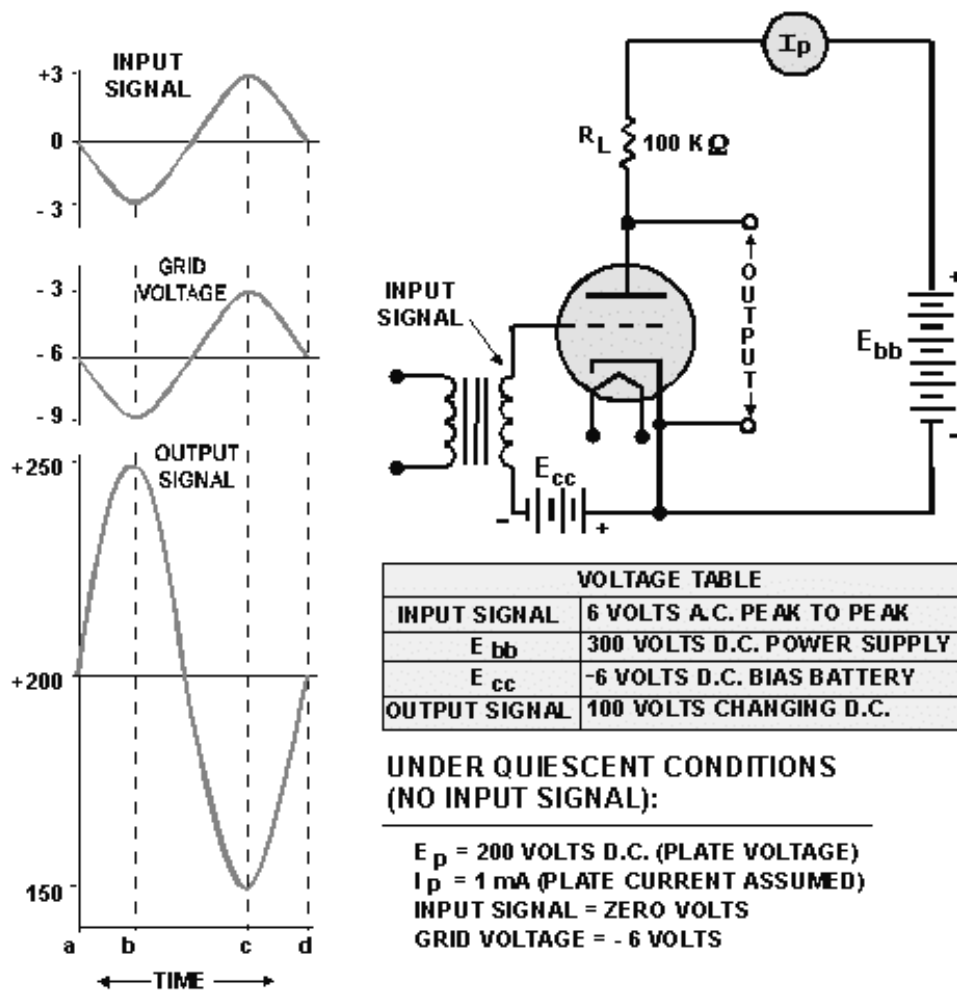

Figure 1-19.—Triode operation.
The circuit in figure 1-19 brings together all of the essential components of a triode amplifier. Before analyzing the circuit, however, we need to define the term **QUIESCENT**.
Simply, quiescent describes circuit conditions when the tube is not amplifying. The tube has no output signal and is in a kind of standby, waiting condition. Now let's go on to figure 1-19. With no input signal, under quiescent conditions, assume that 1 milliampere of current flows through the tube, cathode to plate. This current ( $I_p$ ) will flow through  $R_L$  (load resistor) to the positive terminal of the battery. The current flowing through  $R_L$  causes a voltage drop ( $IR$ ) across  $R_L$  equal to:
These values are shown on the waveforms as time a in figure 1-19.
Before going on to the next section, there is one more thing of which you should be aware. Look again at the waveforms of figure 1-19. Notice that the output voltage of the amplifier is 180° out of phase with the input voltage. You will find that this polarity inversion is a characteristic of any amplifier in which the output is taken between the cathode and the plate. This is normal and should not confuse you when you troubleshoot or work with this type of circuit.
- Q18. A triode amplifier similar to the one shown in figure 1-19 has an  $E_{bb}$  -350 volts dc. The plate-load resistor is 50 kΩ. Under quiescent conditions, 1.5 milliamperes of current conducts through the tube. What will be the plate voltage ( $E_p$ ) under quiescent conditions?*